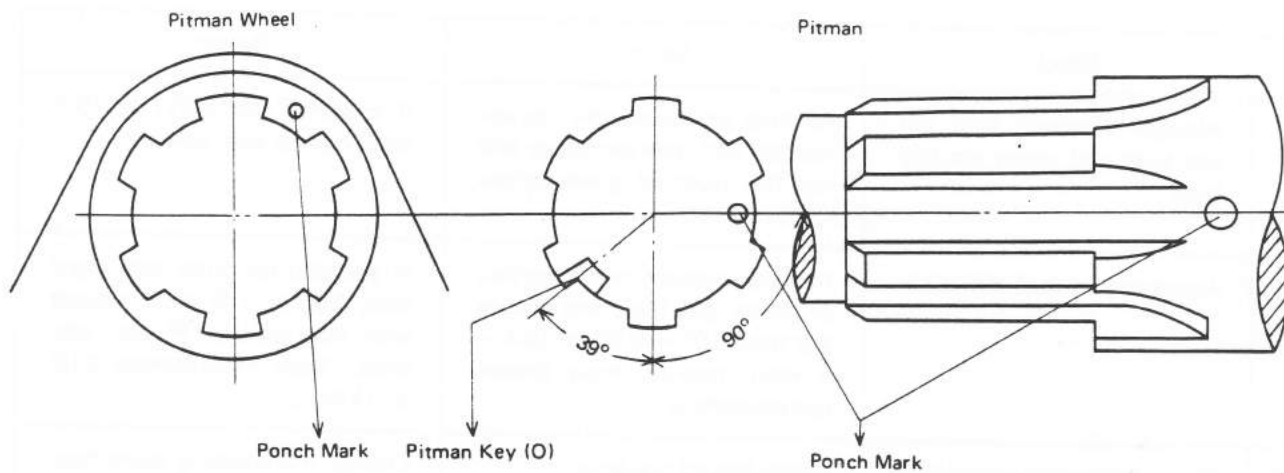

Fig. 10
7. Insert pitman (B) with press into bearing housing (K). Insert key (O) into pitman (B), set washer (Q) and spring washer in place and tighten nut (R) slightly.
8. Attach gasket (I) to assembled bearing housing (K) and insert in steering box (G) while inserting pitman wheel (H) into front end of pitman. ponch position (L) on pitman spline and pon 4 location on pitman wheel brought together as shown in Fig. 10.
9. When the ponch is brought into position, secure with screw (J) at torque 86.7 ~ 123 ft-lb. (12 ~ 17 kg-m). Pitman wheel (H) is secured to pitman (B) (1) section.